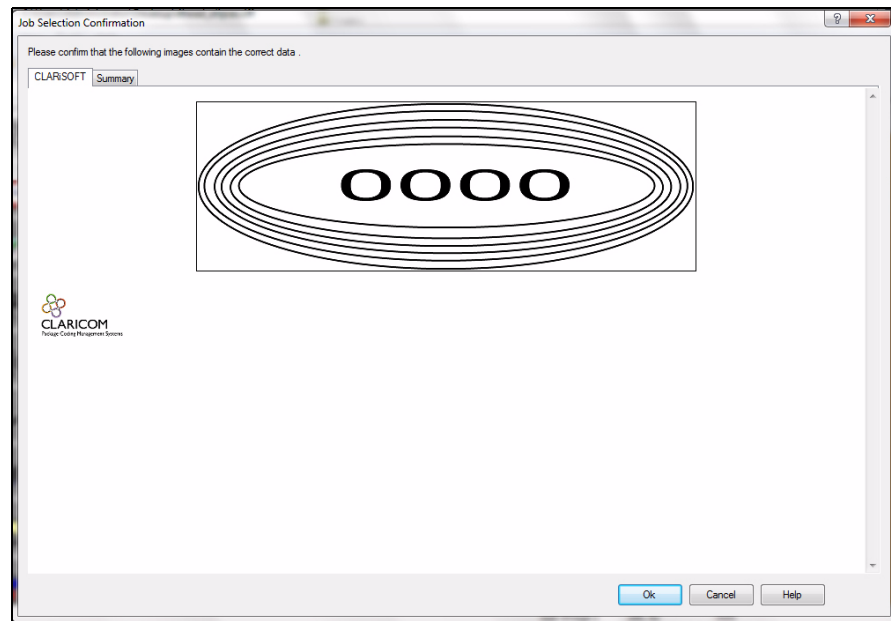

Figure 5-19: Confirmation Window
- 8 The confirmation window appears (see Figure 5-19).